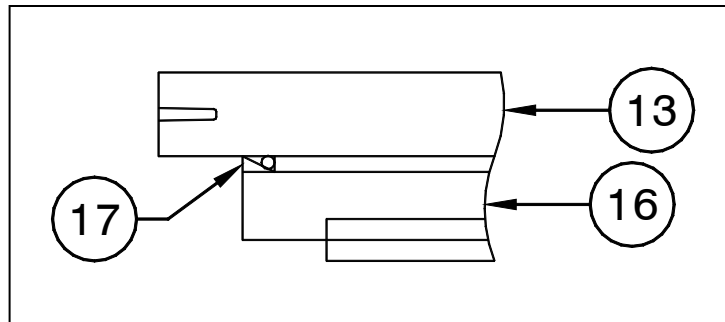

Figure 4.7f
- .12 First, cover the keyway with tape to prevent the seal being cut, then install the oil seal (17) with the lip facing out, as shown in Figure 4.7f.